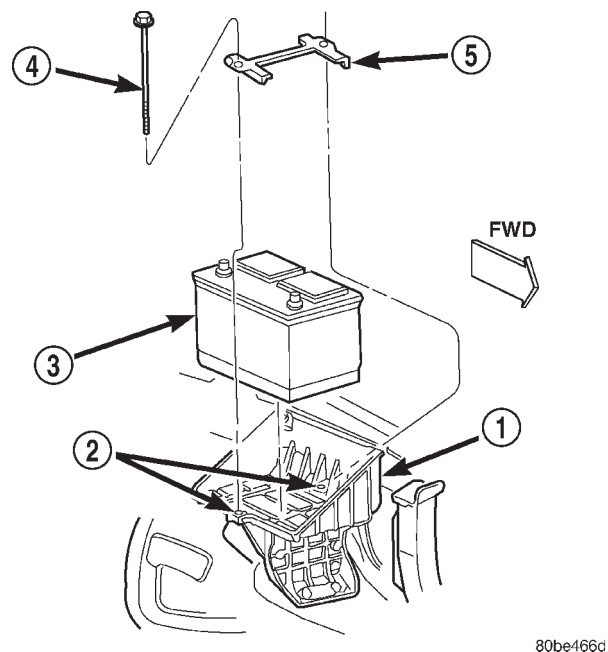

Fig. 18 Left Battery Hold Downs Remove/Install - Typical for Right Battery
(1) Turn the ignition switch to the Off position. Be certain that all electrical accessories are turned off.
(2) Loosen the battery negative cable terminal clamp pinch-bolt hex nut.
(3) Disconnect the battery negative cable terminal clamp from the battery negative terminal post. If necessary, use a battery terminal puller to remove the terminal clamp from the battery post.
(4) Remove the two battery hold down bolts from the battery hold down strap (Fig. 18).